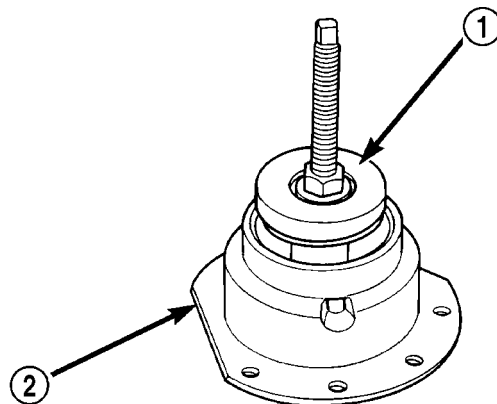

Fig. 176 Position Bearing Cup Remover Tool in Retainer
(6) Using Miller Special Tool L-4518, remove the differential bearing race from the extension housing.
(7) Using Miller Special Tool 6062A, remove the differential bearing race from the bearing retainer (Fig. 176) (Fig. 177).